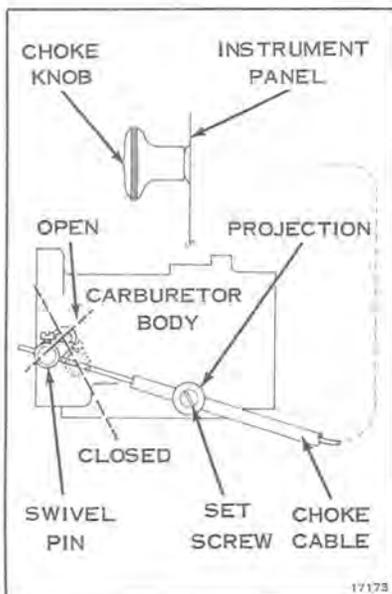

Figure 6-7
- Remove choke cable by loosening set screws on choke swivel pin and carburetor projection, and pulling cable through projection. See Figure 6-7.
7. Insert choke cable assembly through projection on carburetor and insert inner cable through choke lever swivel pin. See Figure 6-7 with choke knob flush against face plate on instrument panel, open choke butterfly valve full open and tighten screw to retain inner cable in swivel pin. Tighten set screw on carburetor projection just enough to hold cable firmly. Work choke knob to check for correct adjustment or possible binding.